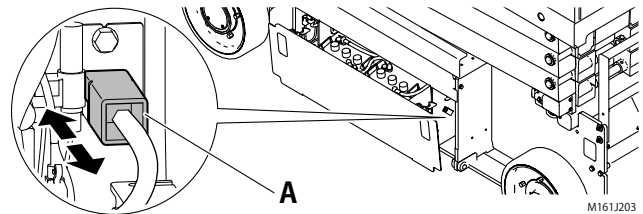

Fig. 11-4
4. Disconnect the disconnecter (Fig. 11-4, A) to cut off batteries electrically. If needed, remove batteries from the machine and cover them.